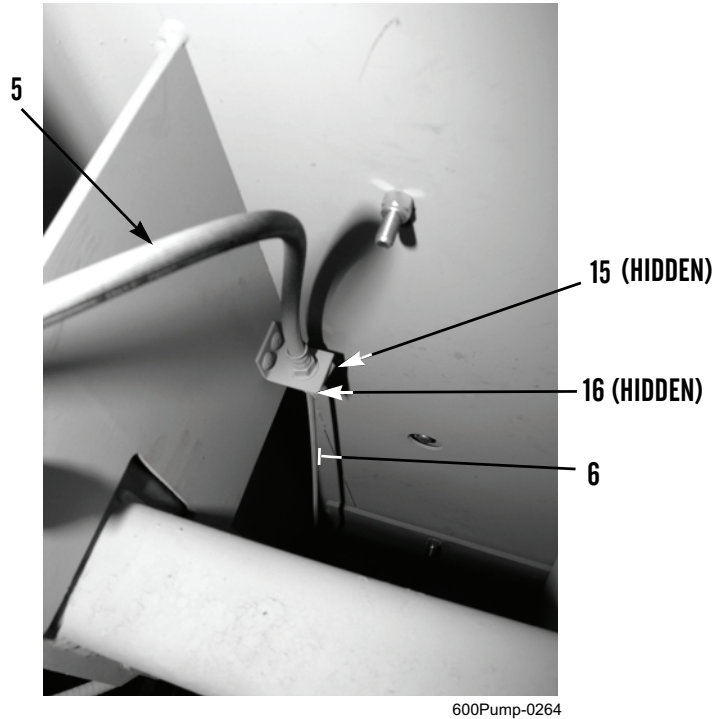

Figure 7. Left-Side Rear Solid Brake Line - Frame Bracket Clip.
- Loosen nut (Figure 7, Item 16), remove frame bracket clip (Figure 7, Item 15), and disconnect left-side rear solid brake line (Figure 7, Item 6) from left-side rear flex brake line (Figure 7, Item 5). Allow brake fluid to drain.
- Remove clamps and release left-side rear solid brake line (Figure 7, Item 6) from trailer frame.
- Connect left-side rear solid brake line (Figure 7, Item 6) to left-side rear flex brake line (Figure 7, Item 5) and tighten nut (Figure 7, Item 16). Install frame bracket clip (Figure 7, Item 15).